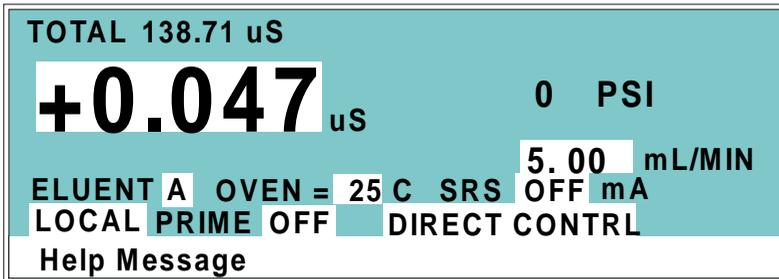

Figure 2-9. Main Screen
1. Go to either the **MAIN** or **DETAIL** screen. The operating mode field displays either **LOCAL** or **REMOTE** (see Figure 2-9).
1. Go to either the **MAIN** or **DETAIL** screen. The control mode field displays either **DIRECT CNTRL** or **METHOD** (see Figure 2-9).
When the IC20 is powered up, it is in Local mode (see Figure 2-9). In Local mode, the IC20 accepts operating commands from two sources: